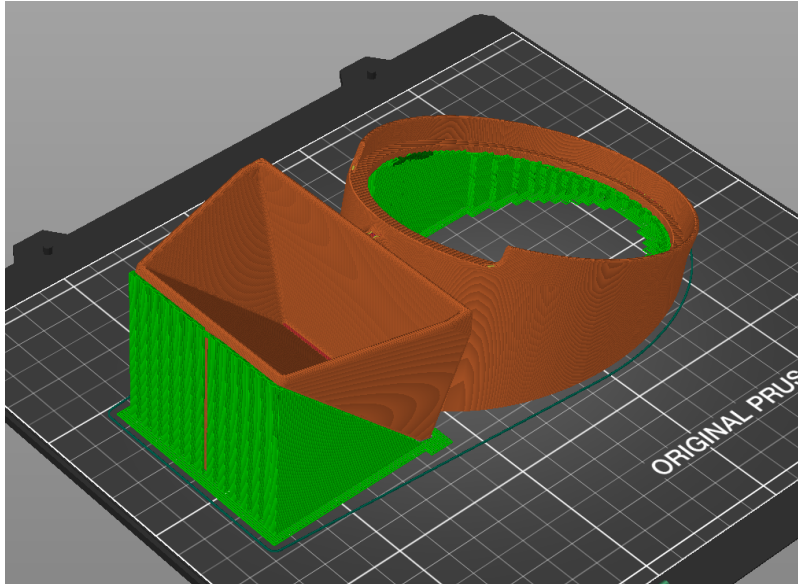

Figure 71: STL model of *Heat-set Insert Stand* with support material in slicer
1. Print the *Heat-set Insert Stand* (Fig. 71) using the following settings: